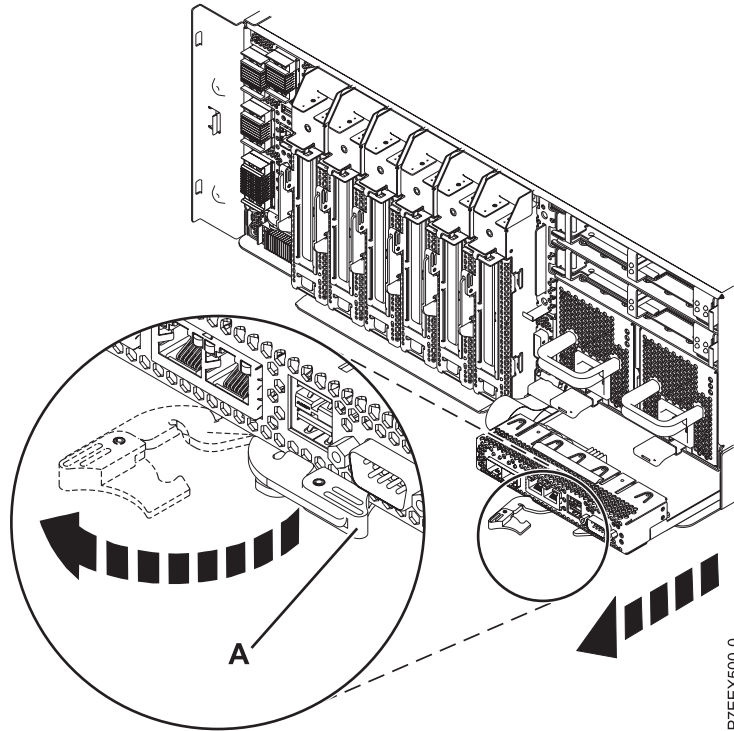

Figure 1. Removing an integrated multifunction card for 17M/MC, 17M/MD, 79M/HC, or 79M/HD
5. Locate the integrated multifunction card that you want to remove as shown in Figure 1 on page 3.